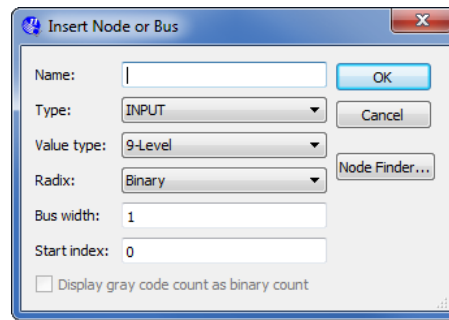
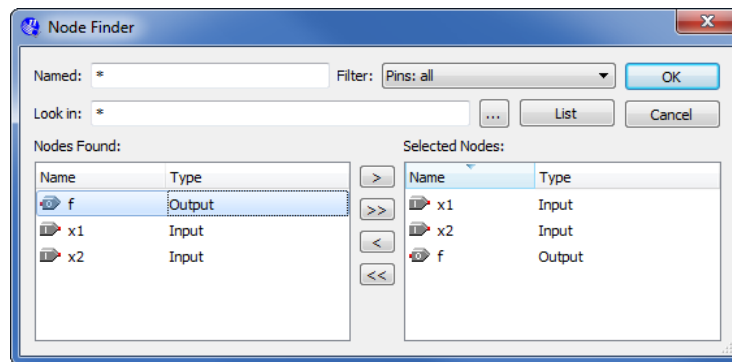
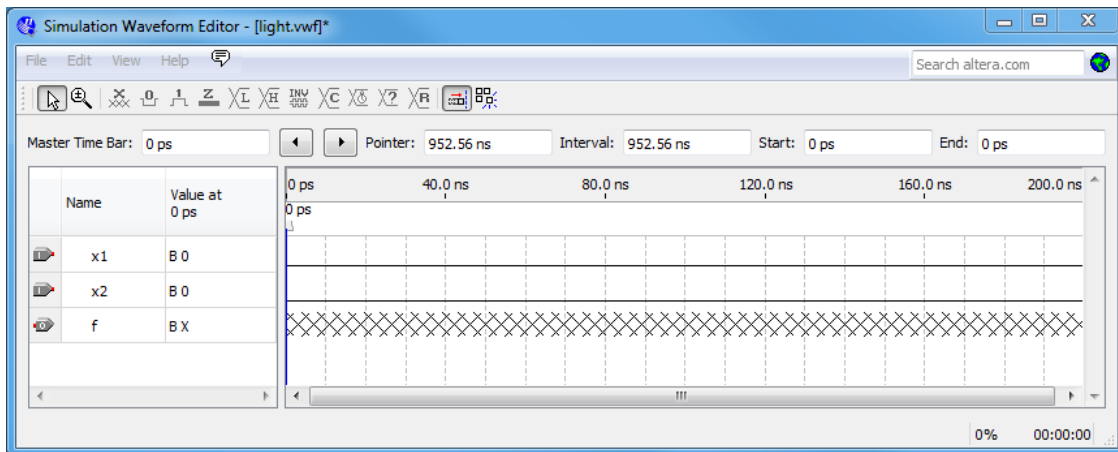

Figure 33. The Insert Node or Bus dialogue.
Figure 34. Selecting nodes to insert into the Waveform Editor.
Figure 35. The nodes needed for simulation.
6. Next, we want to include the input and output nodes of the circuit to be simulated. Click **Edit > Insert > Insert Node or Bus** to open the window in Figure 33. It is possible to type the name of a signal (pin) into the Name box, or use the Node Finder to search your project for the signals. Click on the button labeled **Node Finder** to open the window in Figure 34. The Node Finder utility has a filter used to indicate what type of nodes are to be found. Since we are interested in input and output pins, set the filter to **Pins: all**. Click the **List** button to find the input and output nodes as indicated on the left side of the figure.
Click on the *x1* signal in the Nodes Found box in Figure 34, and then click the > sign to add it to the Selected Nodes box on the right side of the figure. Do the same for *x2* and *f*. Click OK to close the Node Finder window, and then click OK in the window of Figure 33. This leaves a fully displayed Waveform Editor window, as shown in Figure 35. If you did not select the nodes in the same order as displayed in Figure 35, it is possible to rearrange them. To move a waveform up or down in the Waveform Editor window, click within the node's row (i.e. on its name, icon, or value) and release the mouse button. The waveform is now highlighted to show the selection. Click again on the waveform and drag it up or down in the Waveform Editor.